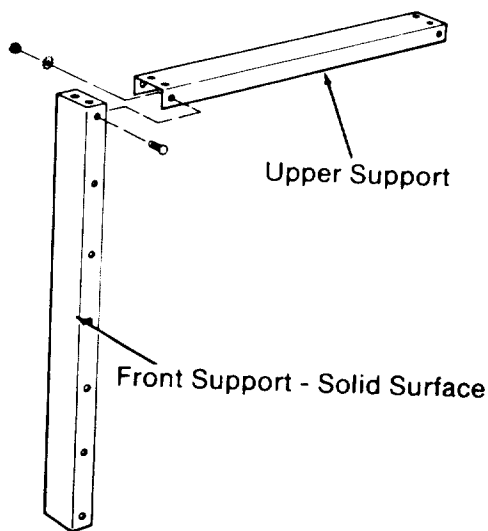

Fig. 37
1. Slide the *upper support* into the *front support* to form an inverted L-shaped unit. Four holes in each part should line up: two holes at the top of the "L", and one hole on each side. (Figure 37)